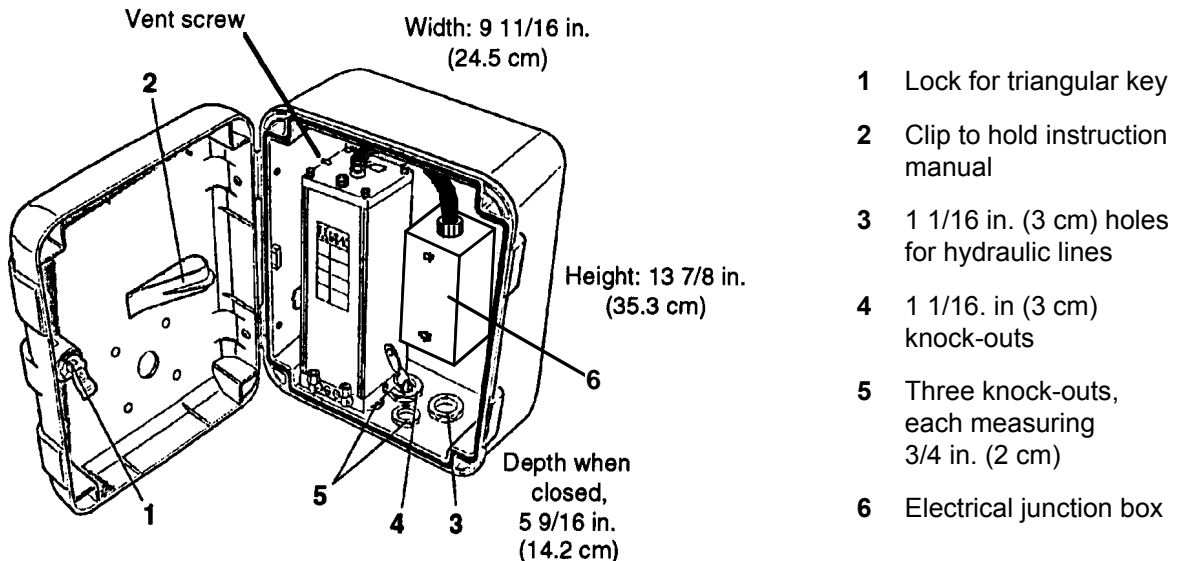

Figure 6. Parts of the power unit in the vinyl box
Figure 6 shows important dimensions and parts of the vinyl power unit box.
2. The power unit itself must be installed so that the vent screw in on the top of the unit as shown in Figure 6.
At this time, you also need to remove the vent screw located on the power unit. The vent screw is in the middle of the top, left side of the power unit as shown in Figure 6.